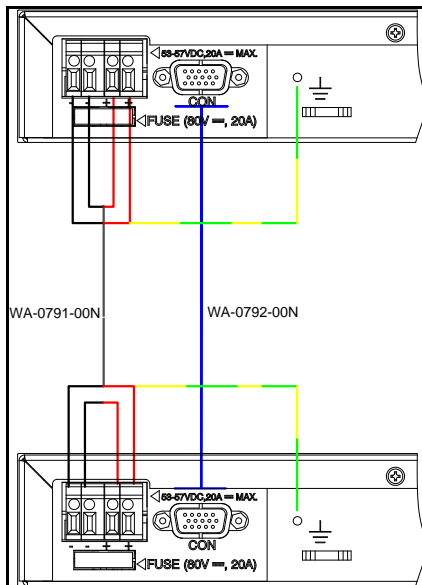

Figure 8-2: PD-96xxG Rear Panel connections
3. Connect DC cable; two red wires (+), two black wires(-), and one yellow/green wire, as shown in Figure 8-2.